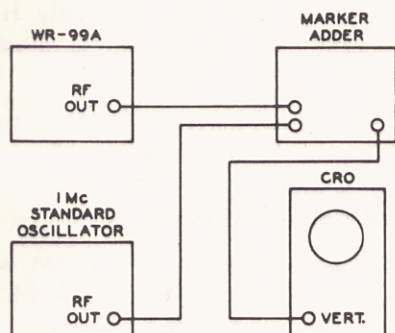

Figure 16. Test setup for alignment of 1-Mc oscillator.
1. Connect the equipment as shown in the test setup of figure 16.